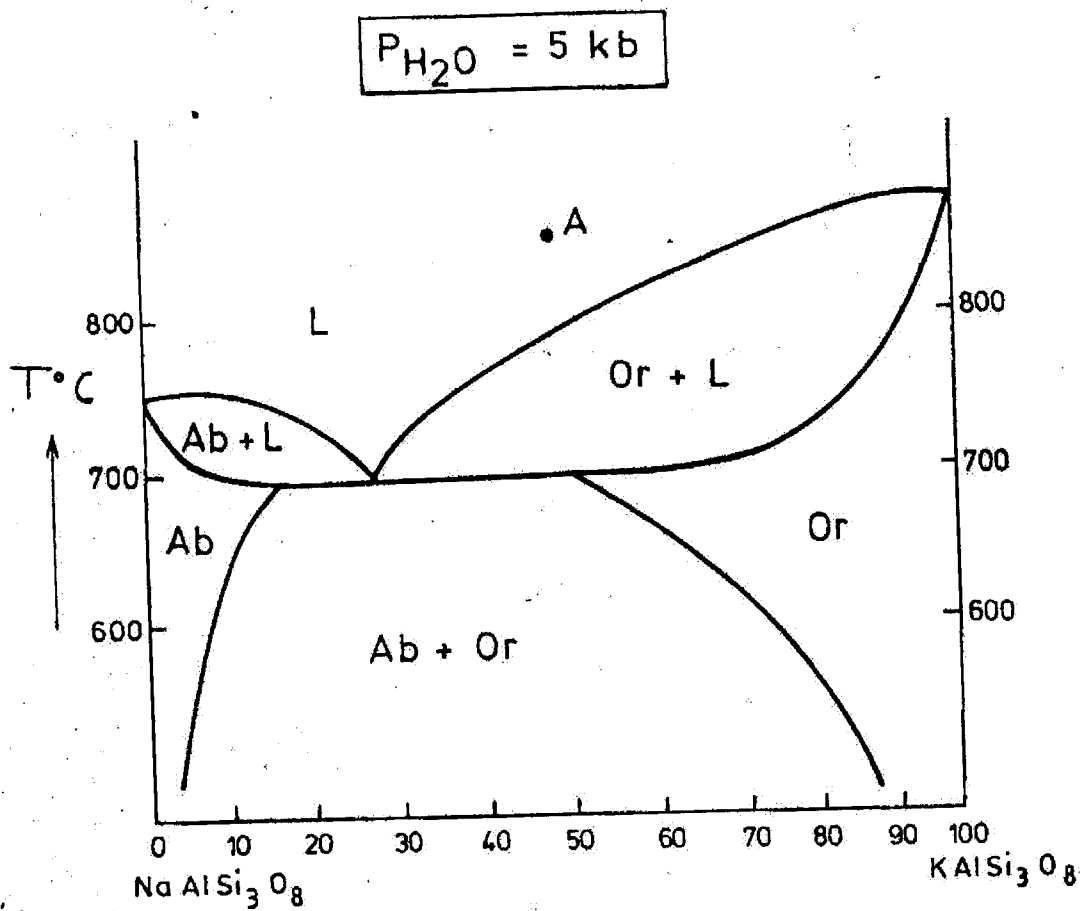

Figure 1
- Q1. Figure 1 is an illustration of the binary system albite- orthoclase alkali feldspar at  $P_{H_2O} = 5Kb$  (40 marks):